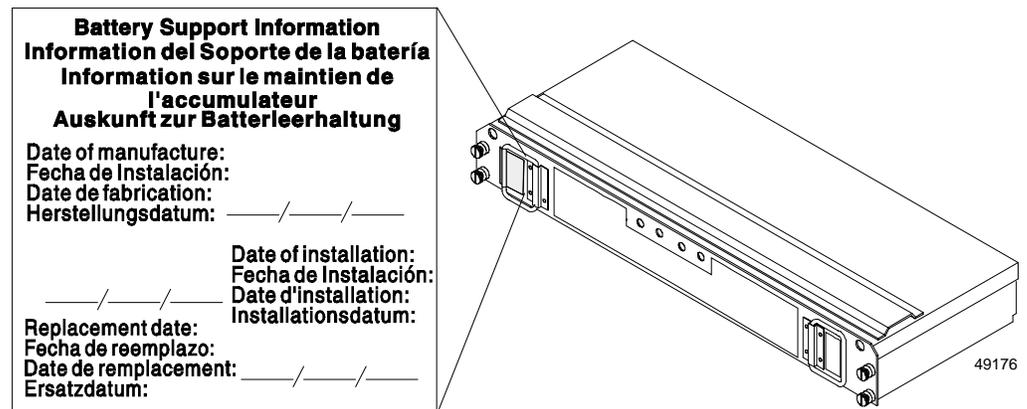

Figure 4-3 Recording the Battery Support Information
2. Unpack the battery canister. Save the packing material for shipping the used battery canister to a disposal facility. Record the following service date information on the front label of the new battery canister (Figure 4-3):